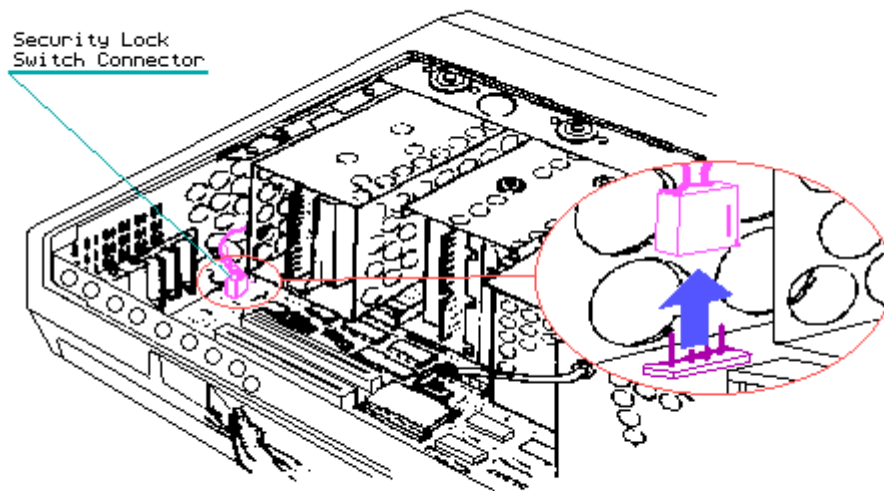

Figure 7.14-1. Disconnecting the Security Lock Switch Connector from the System Board
2. Disconnect the security lock switch connector from its J117 socket on the system board (Figure 7.14-1).